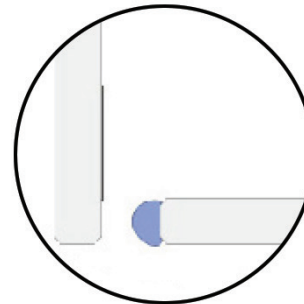

FIG 10.
- Run a continuous bead of silicon down entire length of 10mm face of installed wall to glass panel and across floor channel to the width of the glass to glass panel (**FIG 10**).